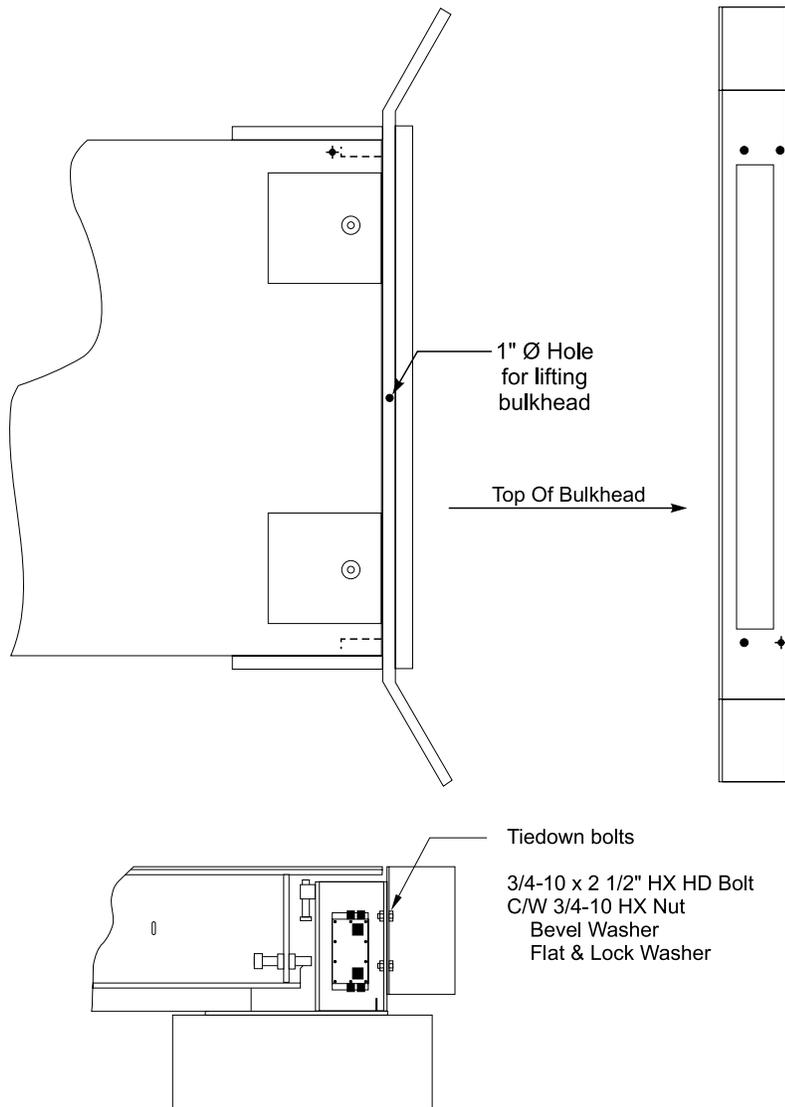

Figure 4
If the bulkheads are from Weigh-Tronix, use (4) 3/4 - 10 x 2 1/2" bolts, bevel washers, and nuts supplied by Weigh-Tronix. Refer to Figure 4.